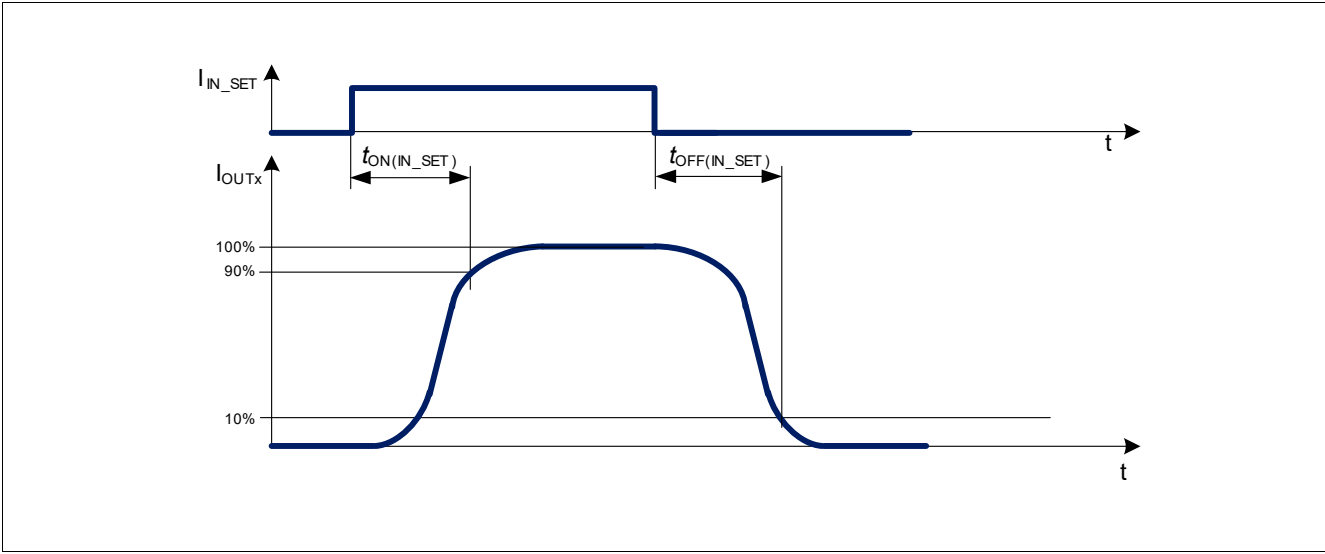
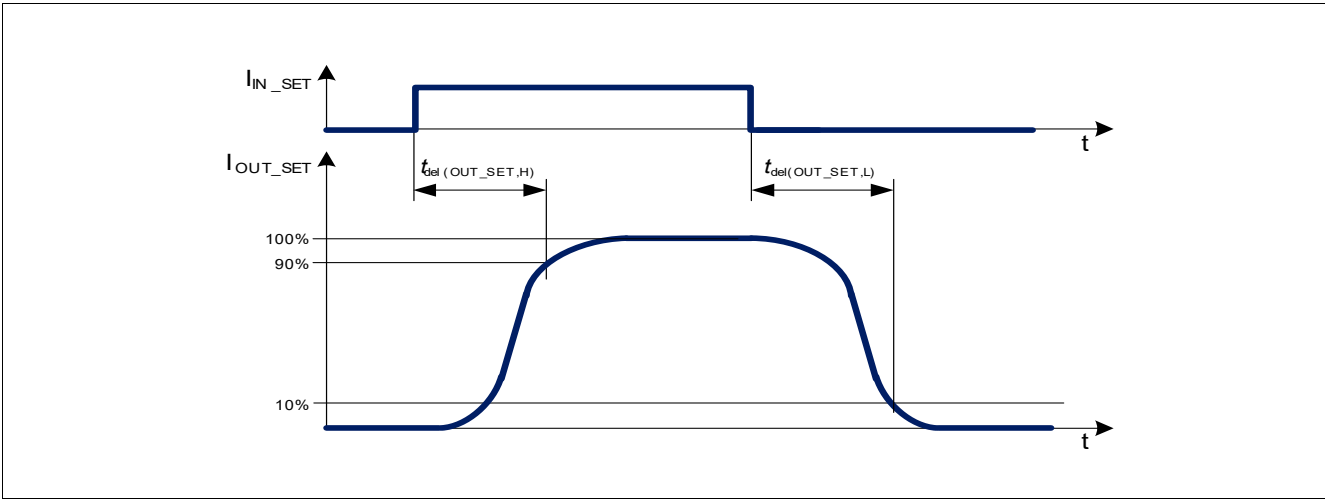
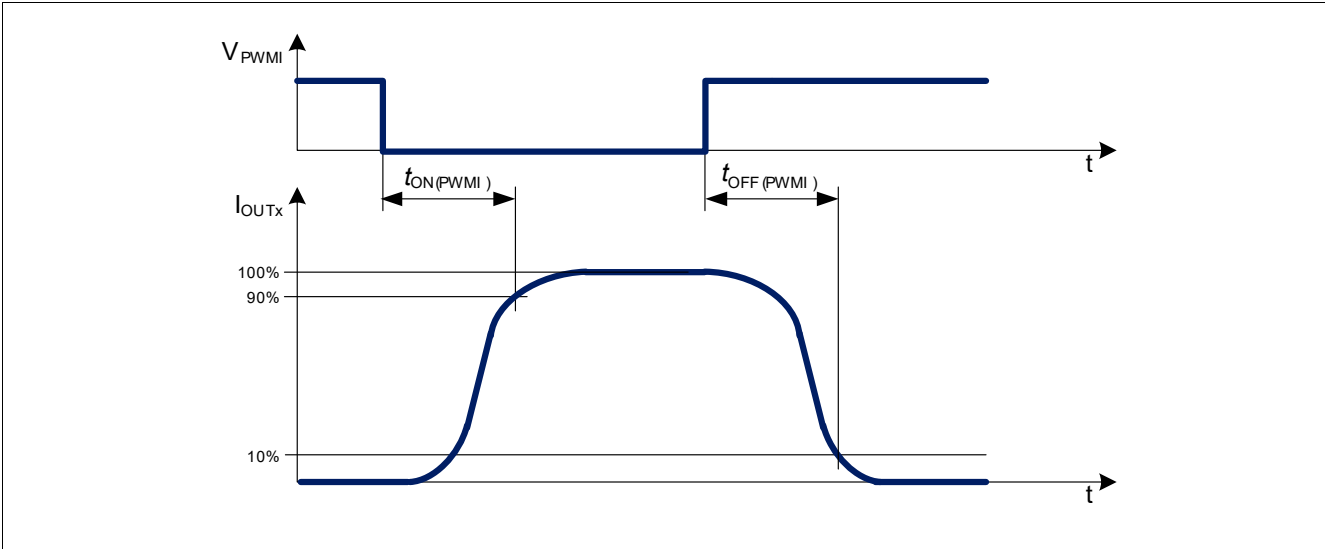

Figure 12 IN_SET turn on and turn off delay timing diagram
Figure 13 IN_SET to OUT_SET activation and deactivation delay timing diagram
Figure 14 PWMI turn on and turn off timing diagram
In the following diagrams (Figure 12, Figure 13, Figure 14) the influences of different driving inputs on output activation delays are shown.
2) Refer to Figure 12
3) Refer to Figure 13
4) Refer to Figure 14